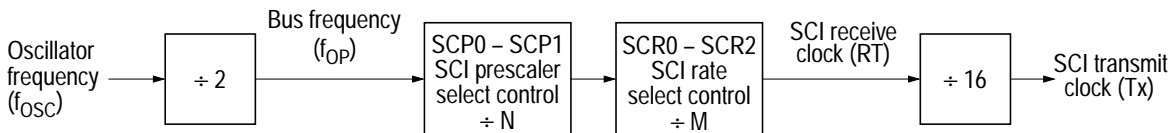

Figure 8-2 Rate generator division
Data transmission is initiated by a write to the serial communications data register (SCDR). Provided the transmitter is enabled, data stored in the SCDR is transferred to the transmit data shift register. This transfer of data sets the transmit data register empty flag (TDRE) in the SCI status register (SCSR) and may generate an interrupt if the transmit interrupt is enabled. The transfer of data to the transmit data shift register is synchronized with the bit rate clock (Figure 8-2). All data is transmitted least significant bit first. Upon completion of data transmission, the transmission complete flag (TC) in the SCSR is set (provided no pending data, preamble or break is to be sent), and an interrupt may be generated if the transmit complete interrupt is enabled. If the transmitter is disabled, and the data, preamble or break (in the transmit data shift register) has been sent, the TC bit will also be set. This will also generate an interrupt if the transmission complete interrupt enable bit (TCIE) is set. If the transmitter is disabled in the middle of a transmission, that character will be completed before the transmitter gives up control of the TDO pin.